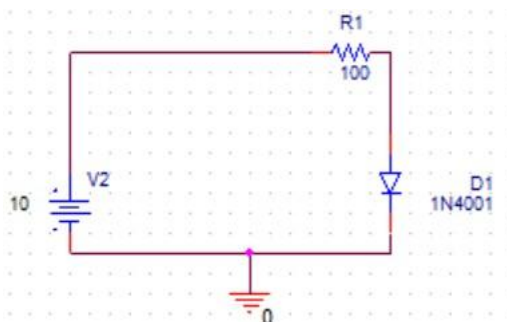

Figure1.7: Schematic for obtaining VI-characteristics of Silicon diode
1. Implement the circuit shown in Figure 1.7 using OrCAD Capture. Construct this circuit on PSpice. Start the circuit definition by placing some resistors as you desire to make a circuit. Select “Part” from the “Place” menu to open a dialog that allows you to choose the part you want to use. Parts are kept in various “libraries” for example, sources are in the SOURCE library and as we have
15. To perform sweep analysis, create a new simulation profile. *New Simulation Profile* option can be found under **PSpice** in Menu bar above or from shortcut icon . From *Simulation Settings* window, in Analysis Type select DC Sweep option. Under Sweep Variable, select Voltage Source and write down the name of voltage source used in circuit e.g., in Figure 1.7 the source model name is V2. In *Sweep Type*, select *Linear*. To sweep voltage from 0.1 to 10V at an increment of 0.1 V, enter corresponding Start Value, End Value and Increment. Apply the selected settings.